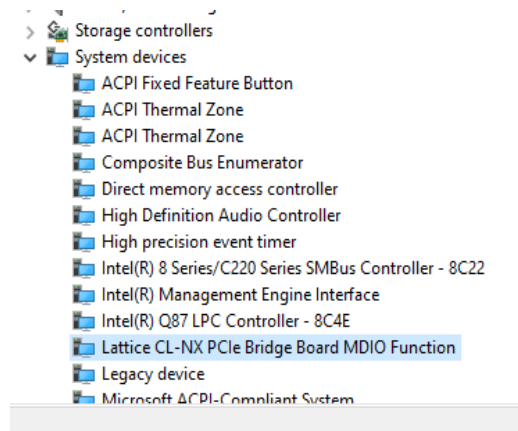

Figure 5.53. Multifunction Demo Device Name Displayed in Device Manager
9. After the driver is installed, the device driver name is displayed in **Device Manager**, as shown in Figure 5.53.